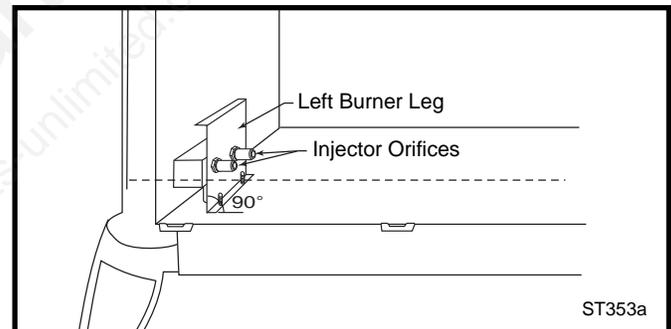

Fig. 76 Remove and replace injector orifices.
**NOTE:** It is very critical to keep the left burner leg, which holds the injectors, at a 90° angle to the base. (Fig. 76) This keeps the orifices aligned with the tubes inside burner. Failure to do so could affect the flame appearance and performance of the unit.